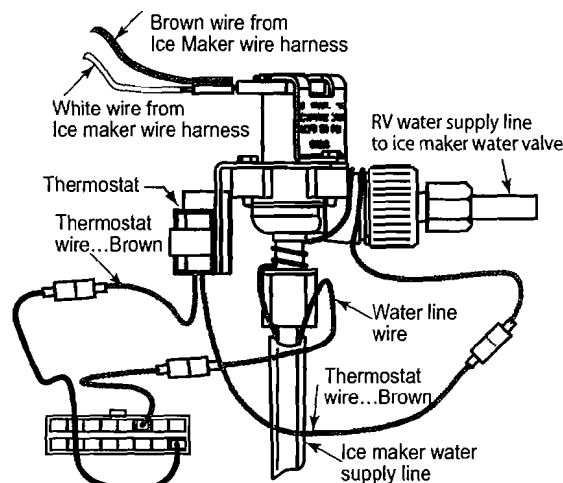

Figure 6. Ice maker water valve connections.
- Disconnect the brown and white wires from the water valve solenoid. See Figure 6.
- Disconnect water line heater wires from thermostat and power board wire leads. See Figure 6.